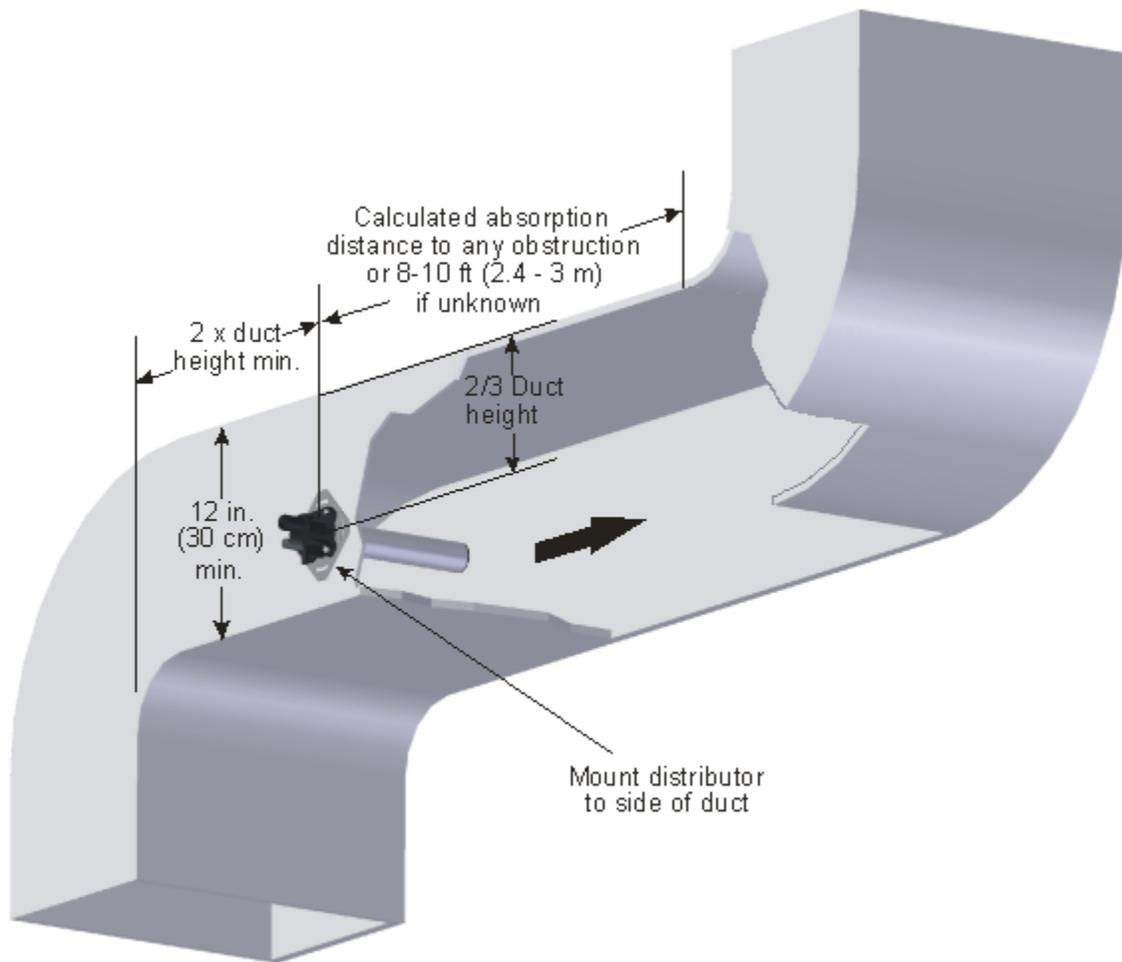

Figure 8: Distributor Location In Duct
- Figure 8 provides common guidelines for locating a steam distributor in a duct.